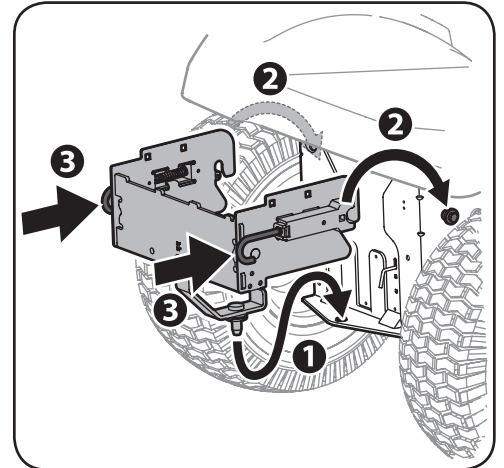

Figure 4-5
3. Slip the pin at the bottom of the bracket support assembly into the hitch adapter on the rear of the mower frame at a slight angle. See 1 in Figure 4-5.
4. Ease the hitch bracket assembly forward over the shoulder bolts on the sides of the mower frame. See 2 in Figure 4-5.
5. Release the j-pins from the rear of the bracket assembly. See 3 in Figure 4-5.